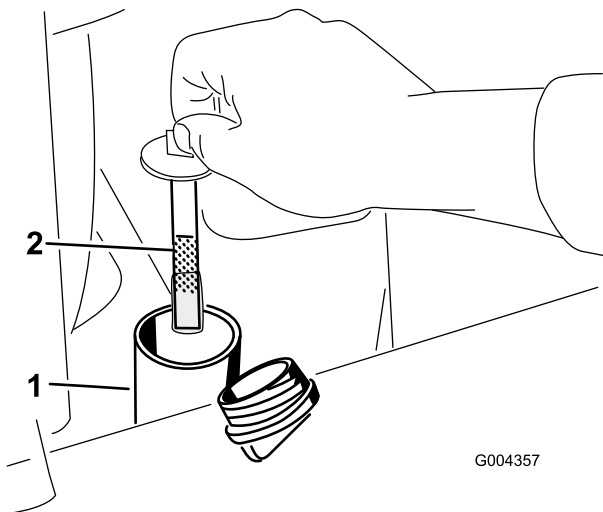

**Figure 58**
5. Clean the area around the filler neck of the hydraulic tank (Figure 58).